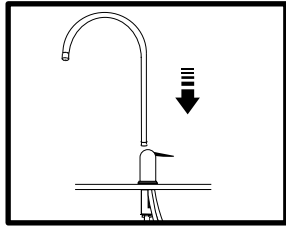

Figure 9
6. Insert goose-neck spout into faucet base firmly (Figure 9).